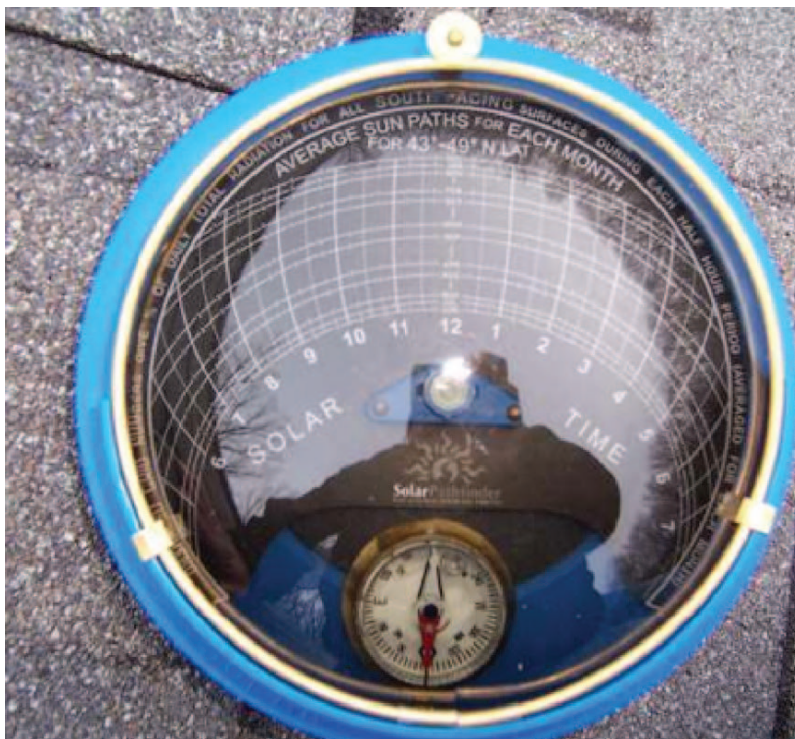

Figure 1 Solar pathfinder
- Figure 1 Solar supplementing a radiant floor system © Caleffi Hydronic Solutions (<https://www.caleffi.com/usa/en-us>). Used with permission.
Probably the single most important consideration in a solar system is the placing of the collector(s), with any possibility of shading being the determining factor. Collector arrays located so that they have direct sun playing on them all day long, if it is present, is certainly the situation to strive for. Properly assessing every potential site for possible shading from trees, hills and other objects is extremely critical and can be challenging, given the conditions and time of year that the assessment is being done. Special tools are available that can assist in predicting the possible occurrence of shading at any specific location. One such tool, called a “solar pathfinder”, is shown in Figure 1 below.